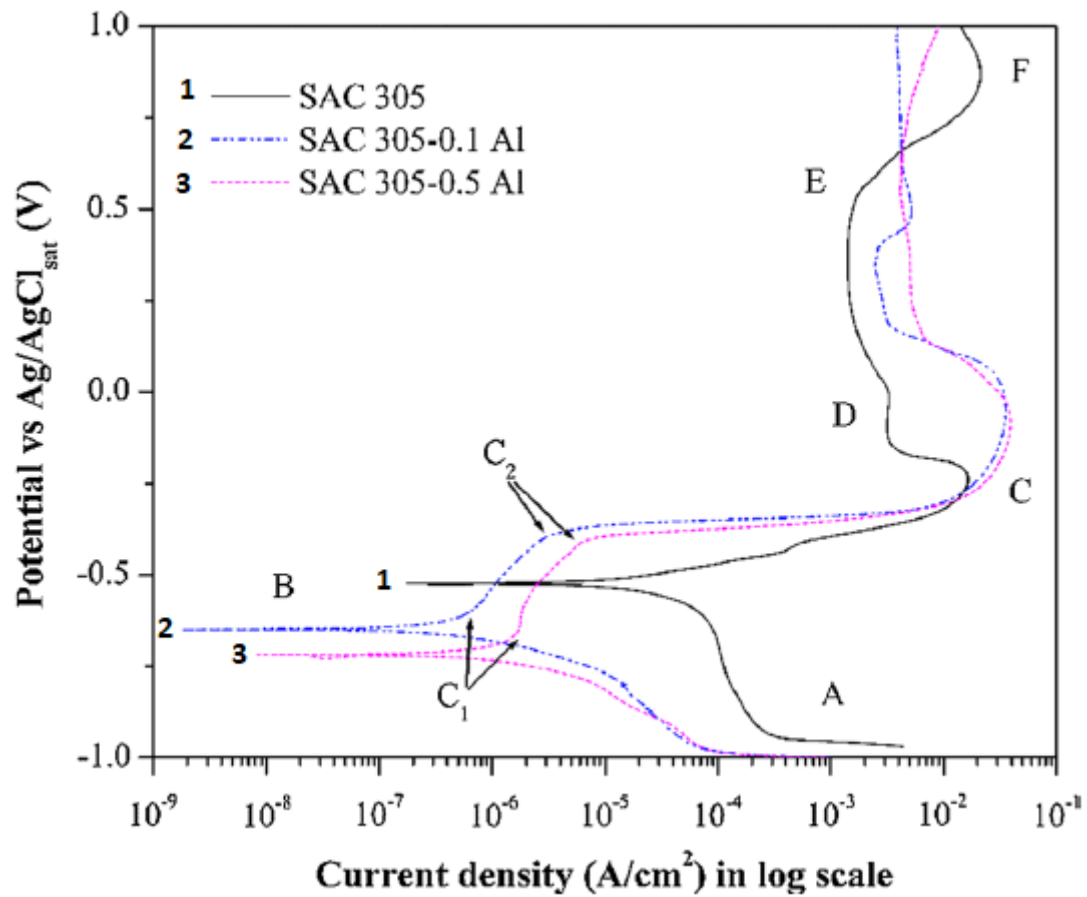

Figure 2: Potentiodynamic polarization curves of SAC 305, SAC305–0.1Al and SAC 305–0.5Al solder alloys
- (5). Based on the potentiodynamic polarization curve shown in Figure 2:
- (a). Propose an experimental circuit setup, clearly labeling each component and describing its function based on the results observed in Figure 2.